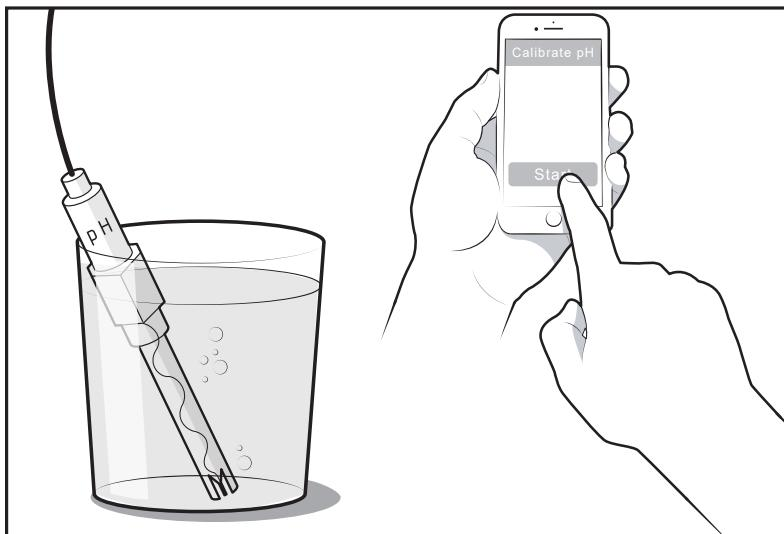

Figure 10. Submerge sensor in water sample
9. Submerge the sensor into the container with measured water sample. Start calibration using the iAquaLink app or on the OneTouch controller (AquaLink® RS only) go to: MENU / HELP > SYSTEM SETUP > TRUSENSE, see Figure 10.